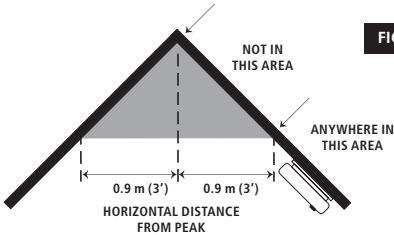

FIGURE 2B
- Install smoke alarms on sloped, peaked or cathedral ceilings following the mounting guidelines outlined in Figure 2B and 2C. Smoke alarms in rooms with ceiling slopes greater than 0.3 m in 2.4 m (1 foot in 8 feet) horizontally shall be located on the high side of the room (Figure 2B and 2C).
- Do not install in areas where the relative humidity (RH) is greater than 95%, non-condensing. Very humid areas, with moisture or steam, can cause nuisance alarms.
- Do not install in peaks of vaulted ceilings. In this area install as shown in Figures 2B and 2C.